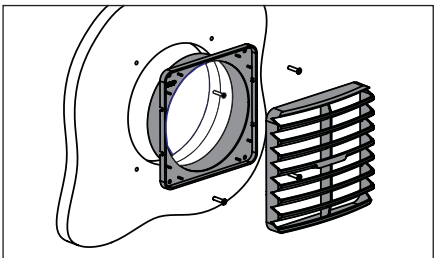

Fig. 13
- 3 Fix grille base with four 6 G screws and snap fit the grille louvres over the grille base as shown in Fig. 13.